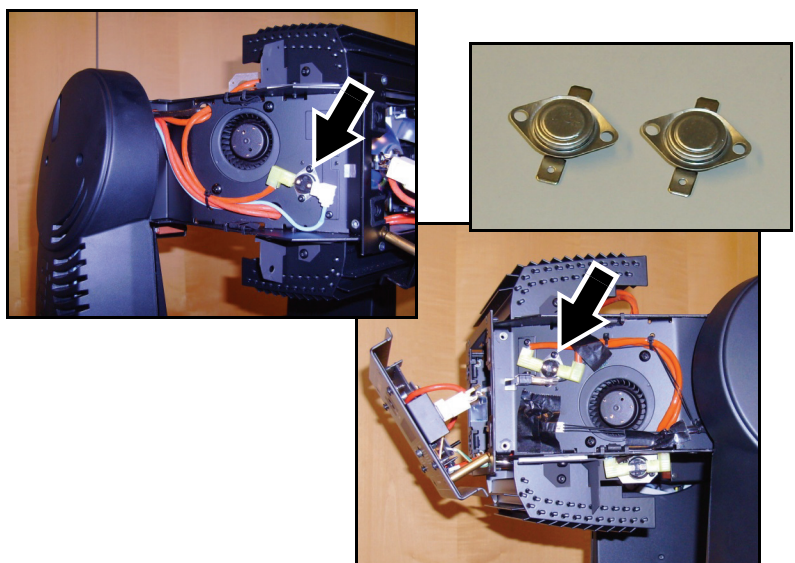

Figure 62
67. See Figure 62. Replace the thermostats (arrowed) in both sides of the head with the two new thermostats (P/N 05040023) supplied in the Upgrade Kit, re-using the existing screws.